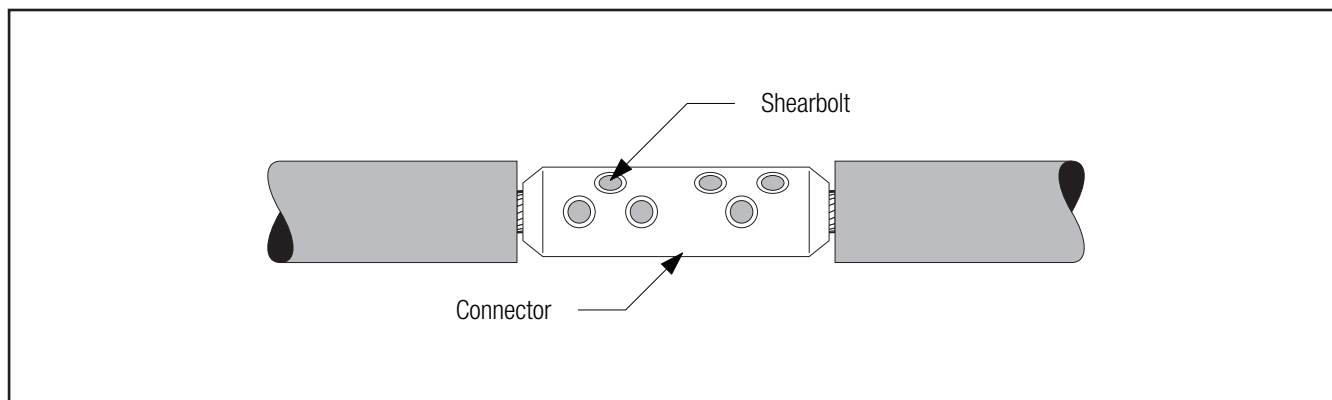

Figure 7
- 3.2 Install 3M Shearbolt Connector QCI 350 - 750 according to the instructions included with the connector (*Figure 7*).